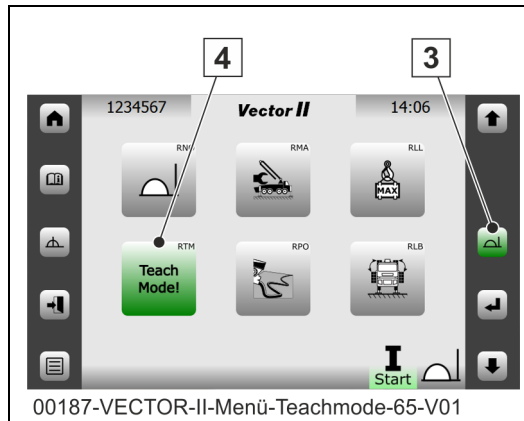

Fig. 108 Teach mode menu
3. Open the selection window for the "REMOTE" operating modes (3) (**Fig. 108**).
4. Select the "Teach mode" menu item (4) (**Fig. 108**) and press "Execute".